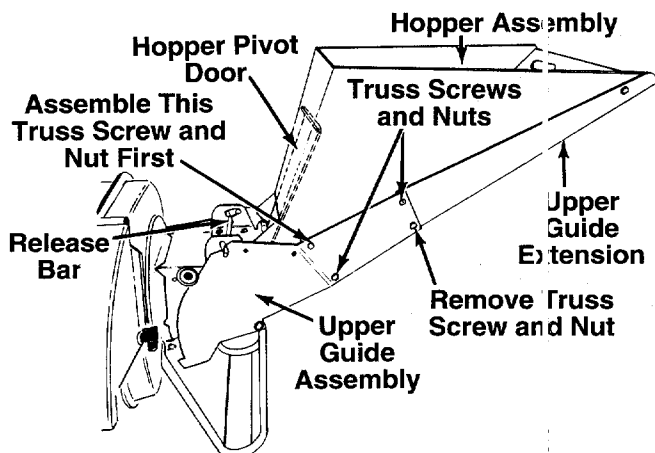

FIGURE 4.
Your shredder has been shipped with the upper guide extension attached to the hopper assembly. See figure 4. Attach the hopper assembly to the upper guide assembly as follows. Be certain to place heads of all truss machine screws **inside** of hopper assembly.
1. Remove one truss machine screw and nut from each side of hopper assembly as shown in figure 4. **Push hopper pivot door down inside lower part of hopper** as you place hopper assembly (both pieces) **inside** upper guide assembly. Replace truss screws and nuts just removed, using the front upper hole in assembly as shown in figure 4, one on each side. Tighten finger tight only.